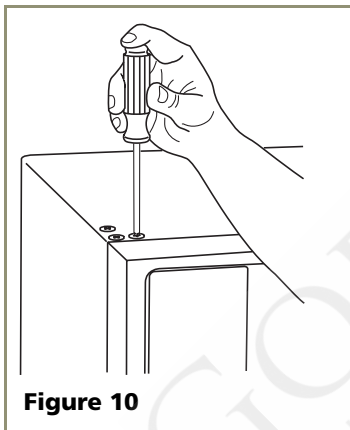

Figure 10
10. Remove three plastic screw plugs (**Figure 10**) from hinge holes, top of cabinet, opposite side. Be careful not to scratch cabinet.